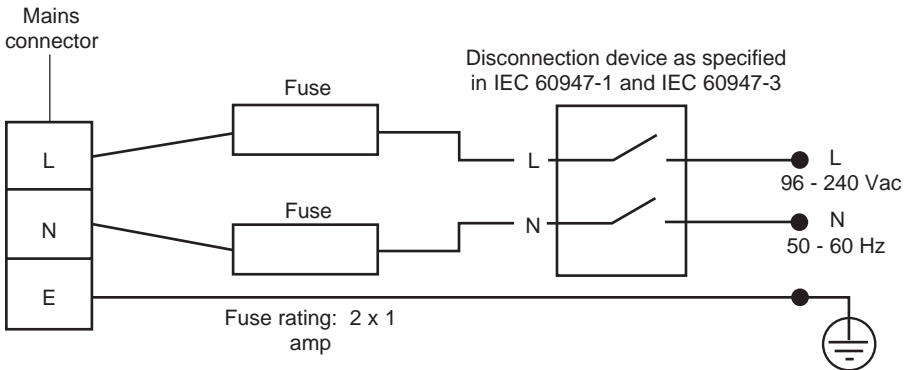

Fig. 8
The general wiring diagram in Figure 8 below shows the connection of the sensors to the R16C monitor.
5. It is important that the polarity of the sensor wiring is correct as shown in Figure 8, (PL5 on the R16C is connected to the red wire of the sensor and the PL4 on the R16C is connected to the sensors blue wire). If this wiring is reversed the unit will appear to operate but will give confusing results.